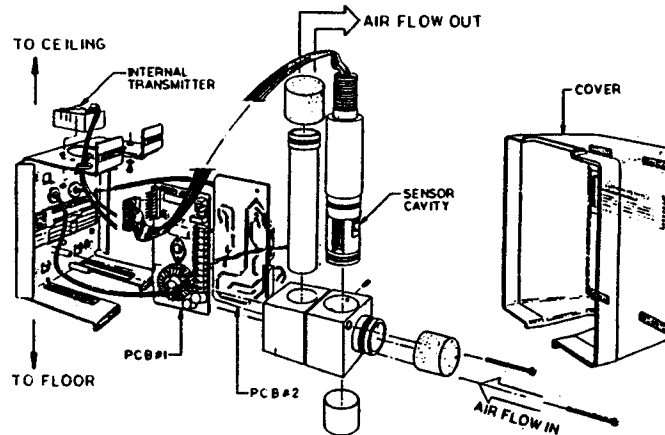

Figure 4-1. Installation Diagram
3. Install according to Figure 4-1. The unit will power up immediately upon connection to power.